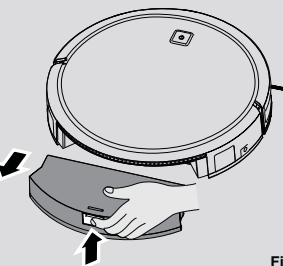

Fig. 17
1. Press the release button and pull it out. [Fig. 17]
2. Press the dust container release button and remove the dust container from the Robot. [Fig. 17]